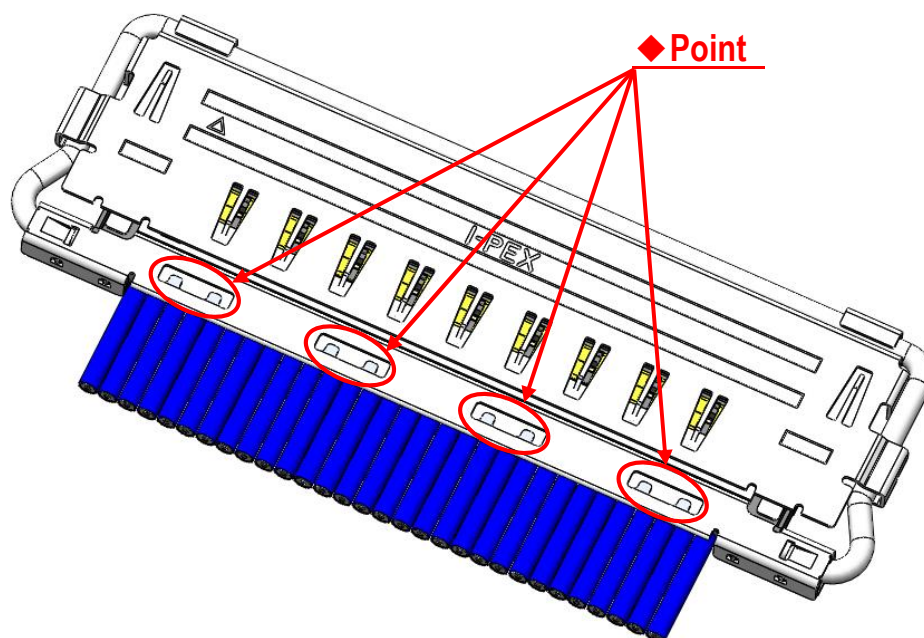

Fig.10 Soldering of Shell-A and Ground Bar
- ④ Soldering shell-A, B and ground bar with the soldering iron at all designated points is recommended. (Fig.10,12 ◆Point)